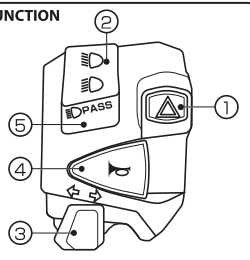

Fig 2
- 1) Remove the headlight unit, disconnect the left (L) handle switch coupler from the clutch switch terminal connection, and then remove the L handle switch.
- 2) Make a new hole for installation by using attached pattern paper. (Refer to the Fig 2 in right side.)